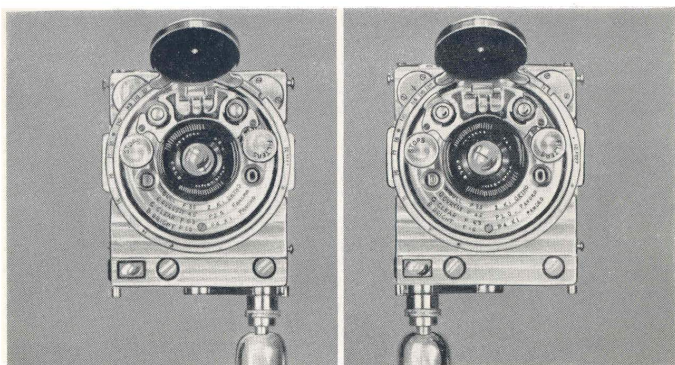

FIG. 10.—The two positions of the Camera when taking Stereoscopic pairs of pictures.
Unscrew the Stereoscopic Head (7) from its setting in the side of the camera and screw it into the bush provided on the camera foot (9). Take the detachable Tripod Bush (22) from the other side of the camera and screw it on to the tripod. If the Stereo Head is now dropped over the Tripod Bush (as shown in Fig. 10) the camera will be firmly fixed on the tripod, but it can be held in either of the positions "A" or "B" as shown. In "A" the camera-foot is turned right, in "B" turned left, in each case to a definite stop.